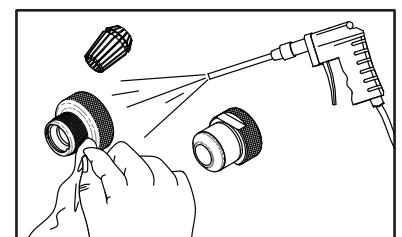
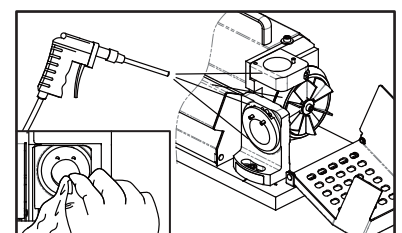

Fig. 6-4
Fig. 6-5
- ① Unplug the power cord and make sure the power is off.
- ② Disassemble the chuck set after use.
- ③ Use the air press gun to clean the scraps and dust out of all grinding shelves and all the accessories. (Fig. 6-4) (Fig. 6-5)
- ④ Use clean cloth to clean each contact port and all the accessories, then put them back in order. (Fig. 6-4) (Fig. 6-5)